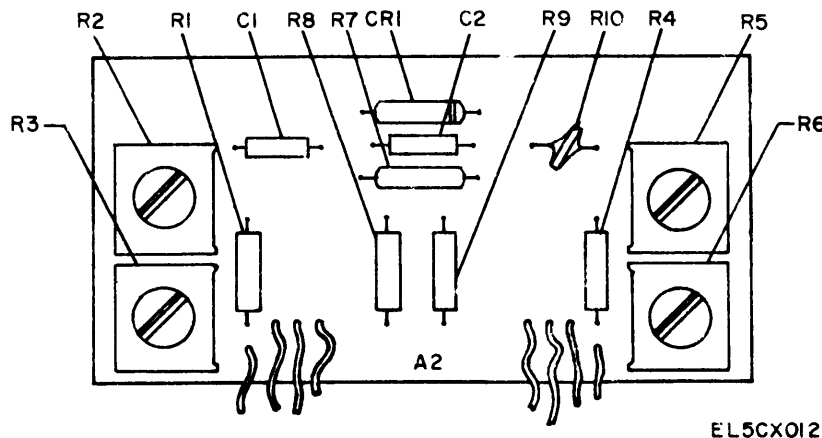

Figure 8-5. TS-3754/U, A2 printed circuit board, parts location.
f. Adjust R2 (fig. 8-5), on the A2 board, of the TS-3754/U until the front panel meter indicates the same reading as the AN/URM-120 (e above).